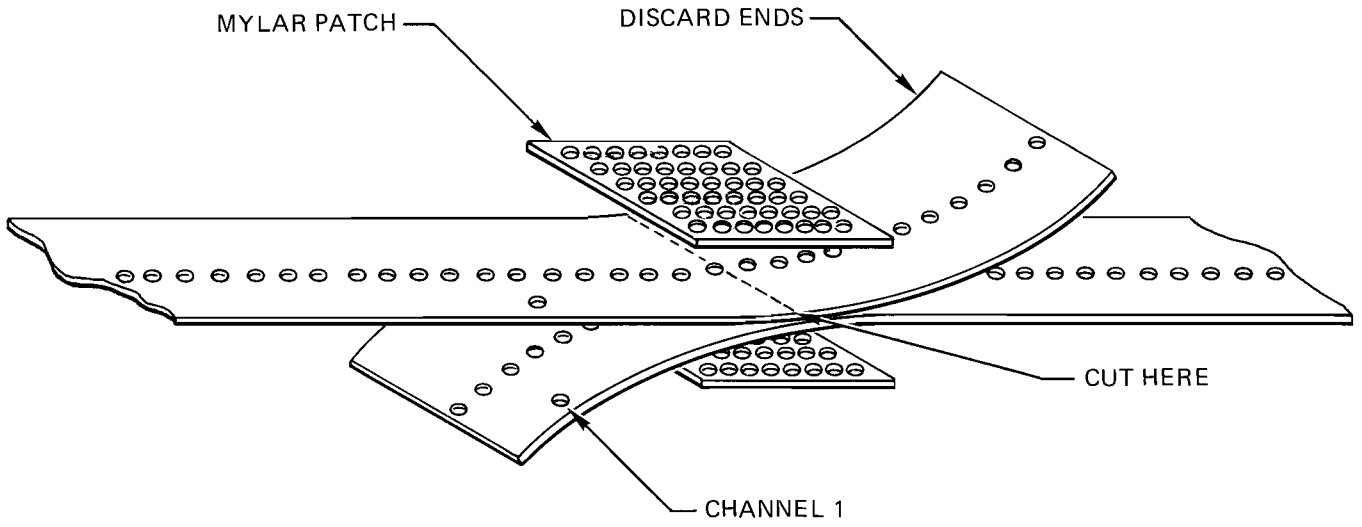

Figure 6
6. To splice the tape, align and overlap the first and last top-of-form holes. Keep the tape aligned and cut through the tape at any convenient point where the two ends of the tape overlap. Discard that portion of the tape containing the third top-of-form hole. Apply a Mylar splicing patch, joining the remaining tape end-to-end in a butt splice as shown in figure 6. Make certain the sprocket holes in the tape are aligned with those in the Mylar patch.